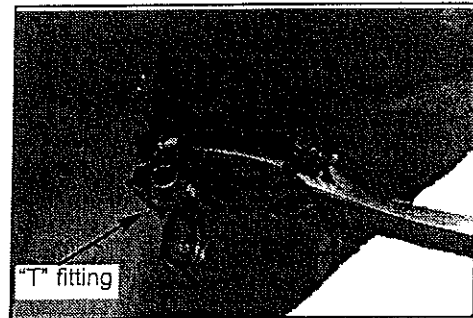

Fig. 7
4. Attach the "T" Flare Fitting to the main pipe coming out of the bottom of the grill using an adjustable wrench. (See Fig 7)